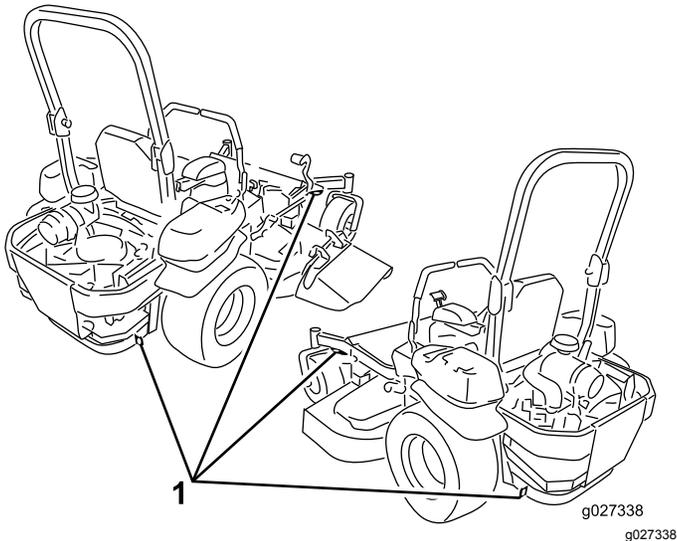

Figure 46
6. Tie down the machine near the front caster wheels and the rear bumper with straps, chains, cable, or ropes (Figure 46). Refer to local regulations for tie-down requirements.